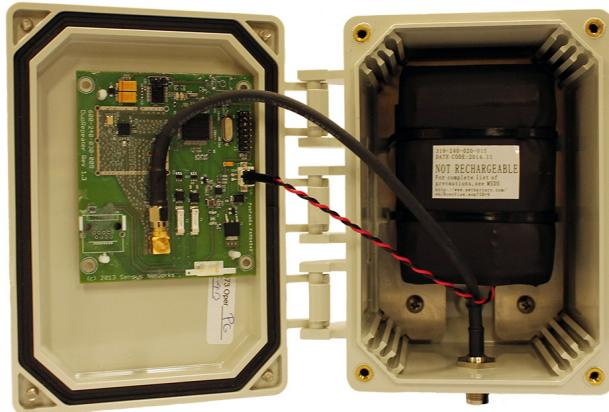

Figure 4.2. Connect FLEX Repeater battery
7. Feed the clip through the loop on the end of the safety cable (as shown in Figure 4.2).